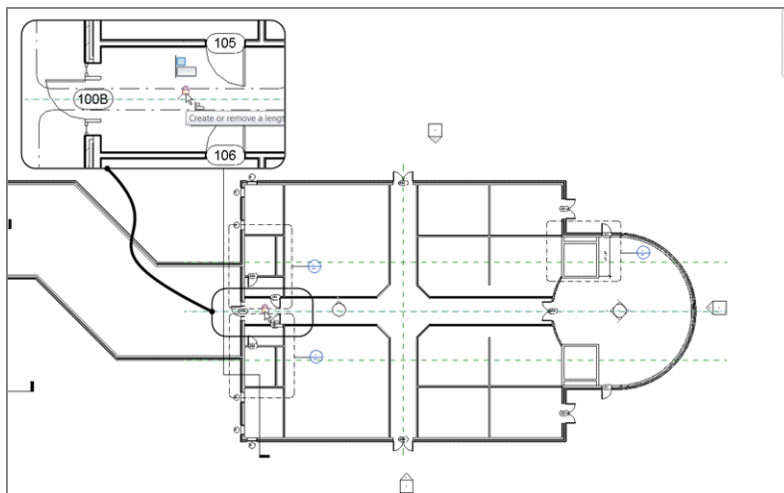

FIGURE 4.34: You can create a locked constraint by using the Align command even if the items were in alignment to begin with.
5. Pick the blue padlock to lock the doors to the center reference plane (see Figure 4.34).